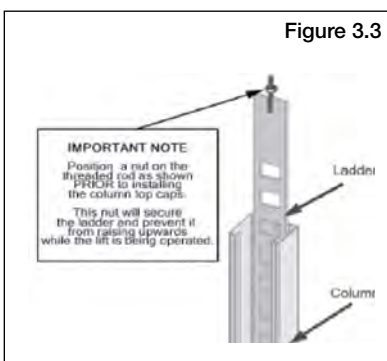

Figure 3.3
3. With the columns standing and the cross tubes in position, install the **SAFETY LADDERS**. Pass the ladders through the column openings and drop down through the slide block guide slots on the cross tube until the ladders come to rest on the base plates. **DO NOT BOLT** columns down at this time. (See Fig. 3.3 and 3.4.)